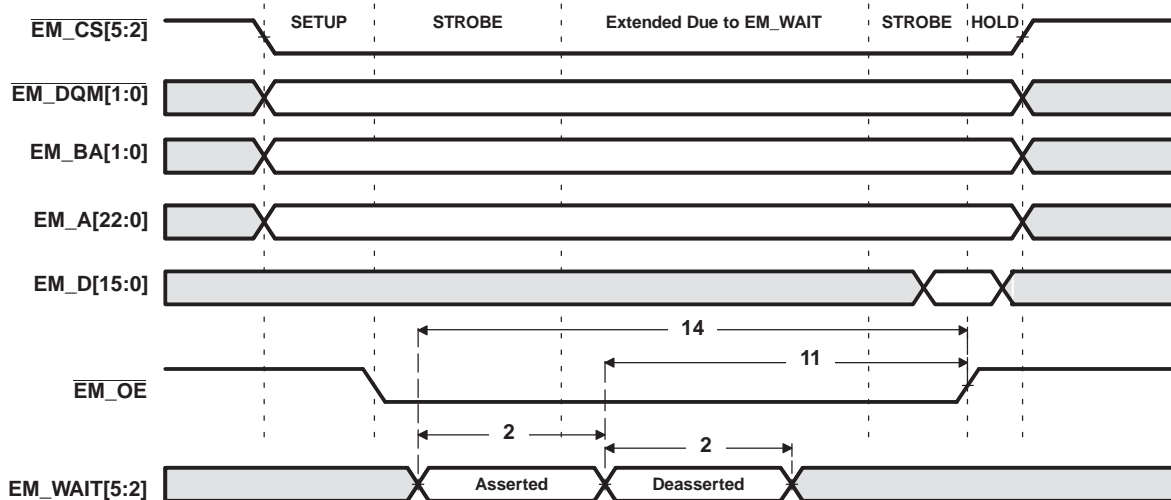
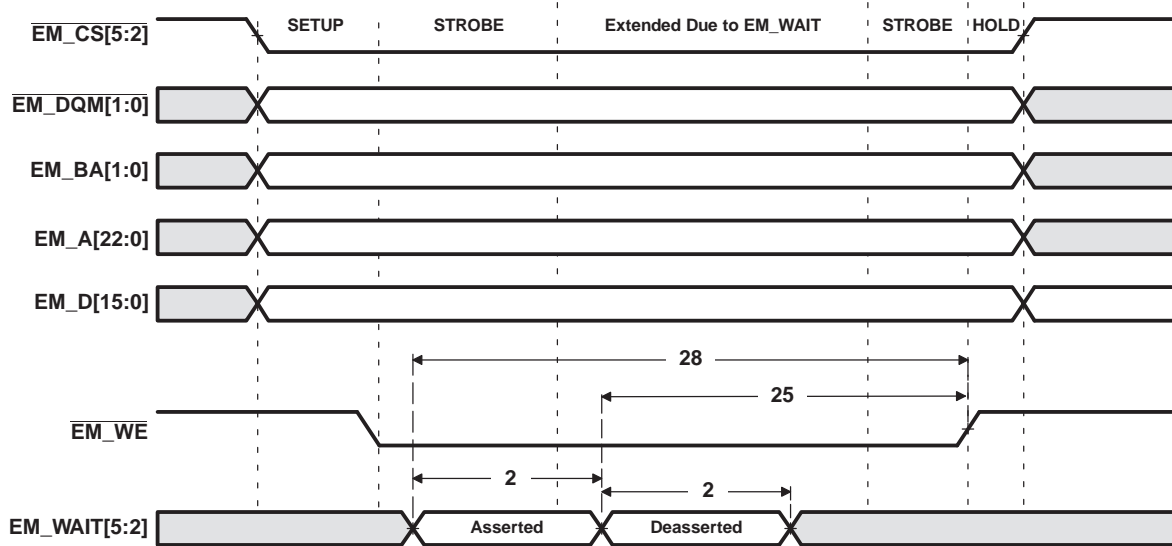

Figure 6-23. EM_WAITx Read Timing Requirements
Figure 6-24. EM_WAITx Write Timing Requirements
(1) E = SYSCLK3 period in ns for EMIFA. For example, when running the DSP CPU at 594 MHz, use E = 10.1 ns.
(2) Setup before end of STROBE phase (if no extended wait states are inserted) by which EM_WAITx must be asserted to add extended wait states. Figure 6-23 and Figure 6-24 describe EMIF transactions that include extended wait states inserted during the STROBE phase. However, cycles inserted as part of this extended wait period should not be counted; the 4E requirement is to the start of where the HOLD phase would begin if there were no extended wait cycles.